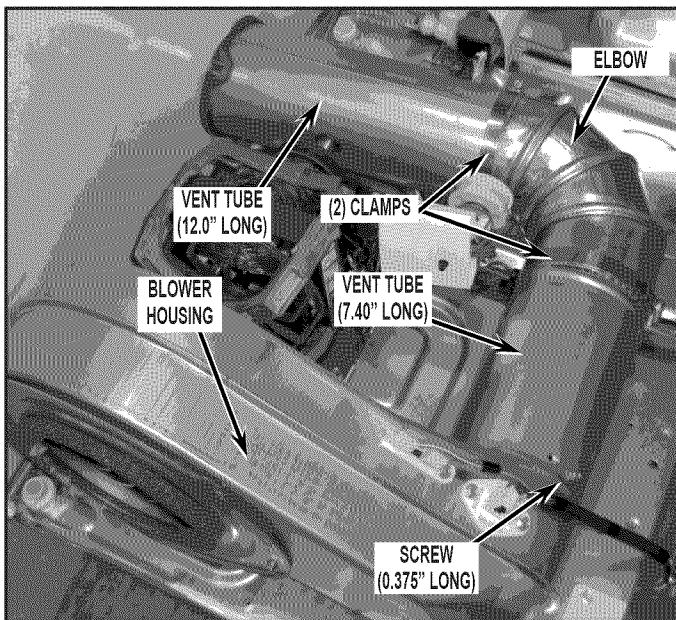
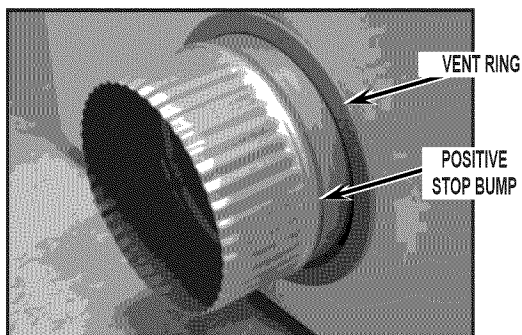

FIGURE 30
FIGURE 31
- Attach the 305 mm (12.0") long vent tube and elbow from kit together using clamp included in kit. Tighten clamp to hold sub assembly together. See *Figure 30*.
- Insert the sub-assembly from Step #5 into the left side knockout hole, rib-end facing out. Slide a clamp onto the elbow and attached elbow end to the 187 mm (7.40") vent tube already in the dryer. See *Figure 30*.
- From the outside of the dryer, install the vent ring included with kit by sliding over exhaust vent tube and snap into place. See *Figure 31*.
- Assure the positioning of the exhaust vent assembly, making sure the positive stop bump on the 305 mm (12.0") long vent tube is on the outside of the dryer. See *Figure 31*. Securely tighten both clamps. See *Figure 30*.